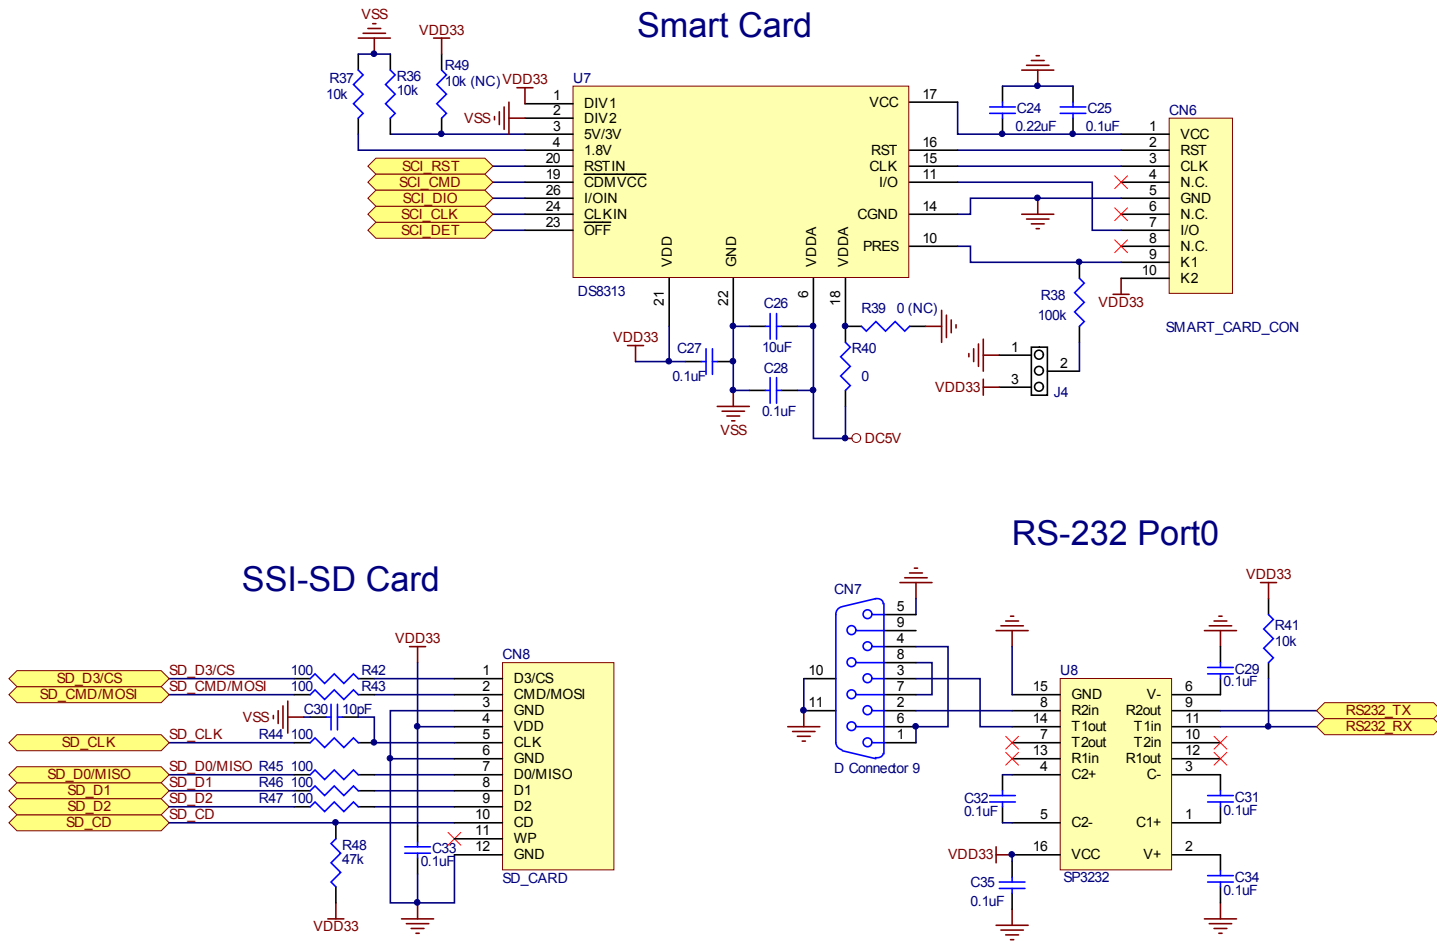

Figure 17. Smart Card, SSI-SD Card and RS-232 Port0
- Figure 17. includes the Smart Card, SSI-SD Card and RS-232 Port0.